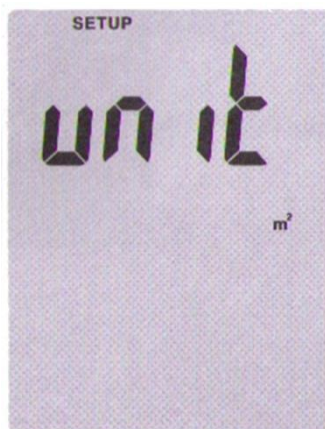

Fig 1
- Set the zero point. To do so, please make sure that the metal protection ring on the sensor head is in the upper position (air velocity = 0). If this is the case, press and hold . (Fig. 1)
To access the unit selection screen for the cross-sectional area, use  or  until the display shows “UNIT” (Fig. 1). Now press  to confirm. An “AREA” indication should appear on the display. This means that you can now select the unit of the cross-sectional area by using  and . The selected unit is shown next to the “AREA” indication. To confirm your selection, press . To exit the setup menu, hold  for 3 seconds.